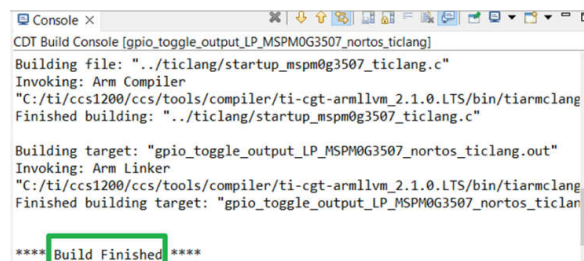

Figure 2-33. Successful Build
8. As users finish evaluating the software, click the *build* icon in the main toolbar, as shown in Figure 2-33. The appearance of *Build Finished* means the compilation is successful.